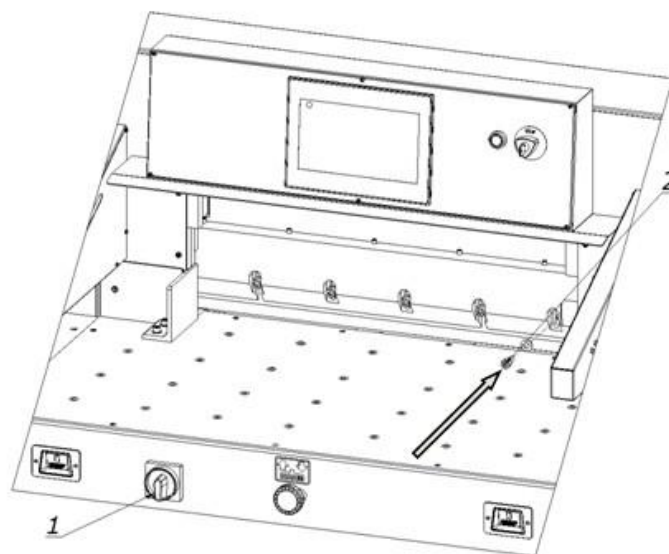

Figure 32a.
11. Screw in the bolt 2 lightly (fig.32a)